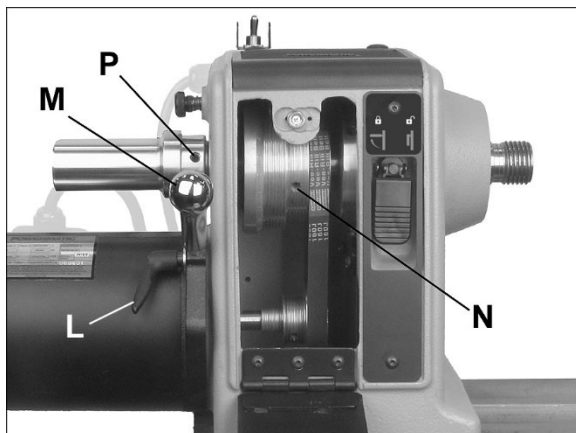

Figure 8-9: sheave/belt alignment
- Loosen pivot lock handle (L, Figure 8-9) and lift tension handle (M, Figure 8-9) to raise motor. Tighten pivot lock handle (L, Figure 8-9) to hold motor in raised position.
- Loosen pivot lock handle (L, Figure 8-9) and lower motor to tension belt. Be sure that V-grooves of belt seat properly in corresponding grooves of sheave. Do not overtension; a very light pressure on the tension handle (M) is adequate to prevent belt slippage.
- Tighten pivot lock handle (L).
- The motor and spindle sheaves are aligned by the manufacturer, but if any service is performed that affects their alignment it is very important that they be realigned. To realign them, loosen two set screws on spindle sheave (one is shown at N, Figure 8-9) with a hex key, and nudge spindle sheave into proper position. Retighten both set screws.
- Loosen lock handle (L, Figure 8-9) and lift handle (M) to raise motor.
- Tighten lock handle (L) to hold motor in raised position. Slip belt off lower pulley.
- Loosen two set screws on handwheel (P, Figure 8-9) with a 3mm hex wrench, and unscrew handwheel off spindle (NOTE: Left-hand threads; rotate clockwise to loosen).
- If replacing sheave, loosen two set screws (N, Figure 8-9), and slide sheave off spindle. Install new sheave, *loosely* securing the two set screws at first. Make sure the sheave is oriented properly.
- Reinstall handwheel and tighten set screws (P, Figure 8-9).
- Align new sheave (see *sect. 8.9*) then tighten two set screws (N, Figure 8-9) securely on sheave.
- Loosen lock handle (L) and allow motor to lower. Do not over-tension; a very light pressure on tension handle (M) is adequate to prevent belt slippage.
- Tighten lock handle (L).